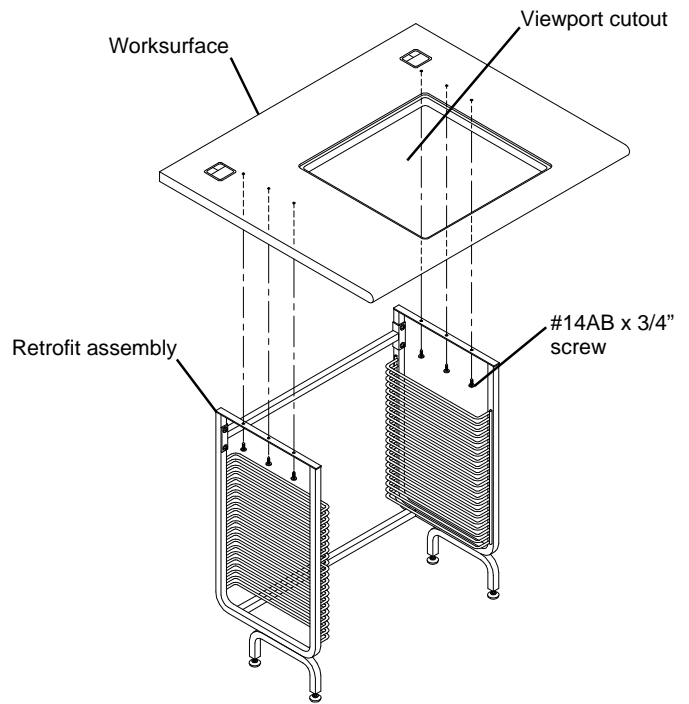

Figure 3
- Turn the assembly upright and position it underneath the viewport cutout in the Worksurface. Align the holes in the Top Rails with the corresponding holes in the Worksurface and attach with the #14AB x 3/4" screws provided. See **Figure 3**.